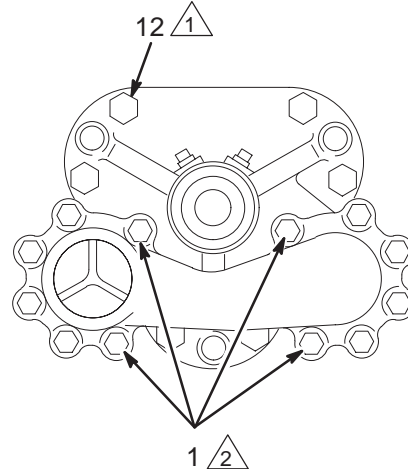

Fig. 16
30. Position the inlet manifold (5) on the inlet valve housing (3). Install the twelve capscrews (1) and lockwashers (2) loosely.
31. Tighten the four inside capscrews oppositely and evenly to 3 N.m (27 in-lb) to balance the load on the valves. Then tighten all twelve capscrews oppositely and evenly to 11.5–24.5 N.m (8.5–18 ft-lb). See Fig. 16.
33. Lubricate and install the new seals (13*, 29*) in the inlet and outlet housings (3, 4). Set the cylinder (15) and riser tubes (14) into place in the inlet valve housing (3). Set the outlet housing (4) onto the cylinder and riser tubes.
34. Install the six cylinder capscrews (12), lockwashers (18) and nuts (19). Tighten the capscrews oppositely and evenly to 81–88 N.m (60–65 ft-lb). See Fig. 16.
35. Lubricate the seals (43*) and press one into each side of the outlet valve housing (4). Press the seats (21), with the unworn sides facing the balls, into the outlet valve housing. Then install the balls (22) and ball guides (23).
36. Place the outlet manifold (5) on the outlet valve housing (4) and install the twelve capscrews (1) and lockwashers (2) loosely. Tighten the inside four capscrews oppositely and evenly to 3 N.m (27 in-lb) to balance the load on the valves. Then tighten all twelve capscrews oppositely and evenly to 11.5–24.5 N.m (8.5–18 ft-lb). See Fig. 16.
37. Tighten the packing nut (33) to 27–34 N.m (20–25 ft-lb).